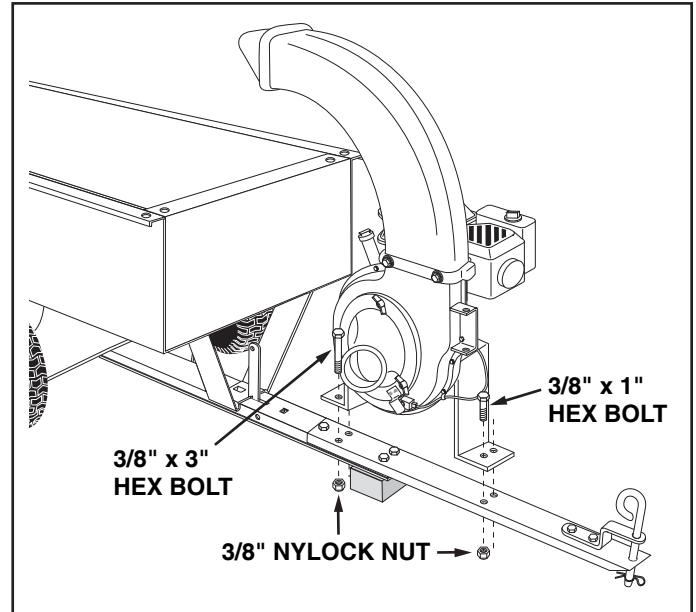

FIGURE 14
24. Assemble the engine to the tongue using two 3/8" x 3" hex bolts in the rear holes, two 3/8" x 1" hex bolts in the front holes and four 3/8" nylock nuts. See figure 14.